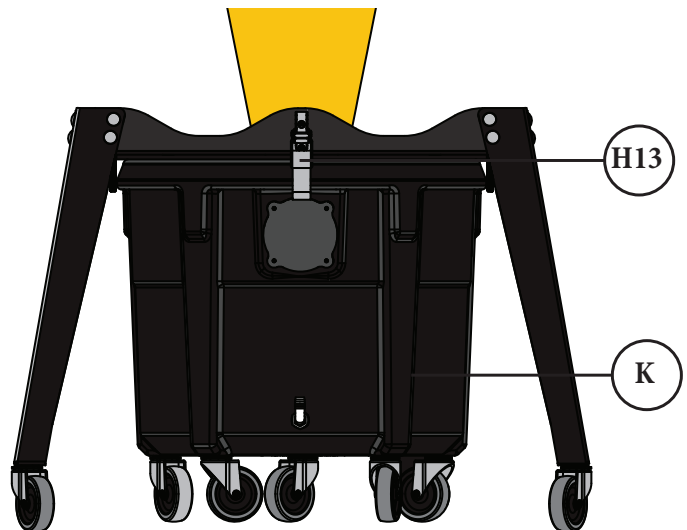

FIG. 24
Center the Drum Assembly (K) underneath the Stand Assembly and lower the Latches (H13) so that they hook underneath the rim of the Drum (K) [FIG. 24]. The Latches can then be closed to lift the drum up from the ground and seal the dust collector for operation.